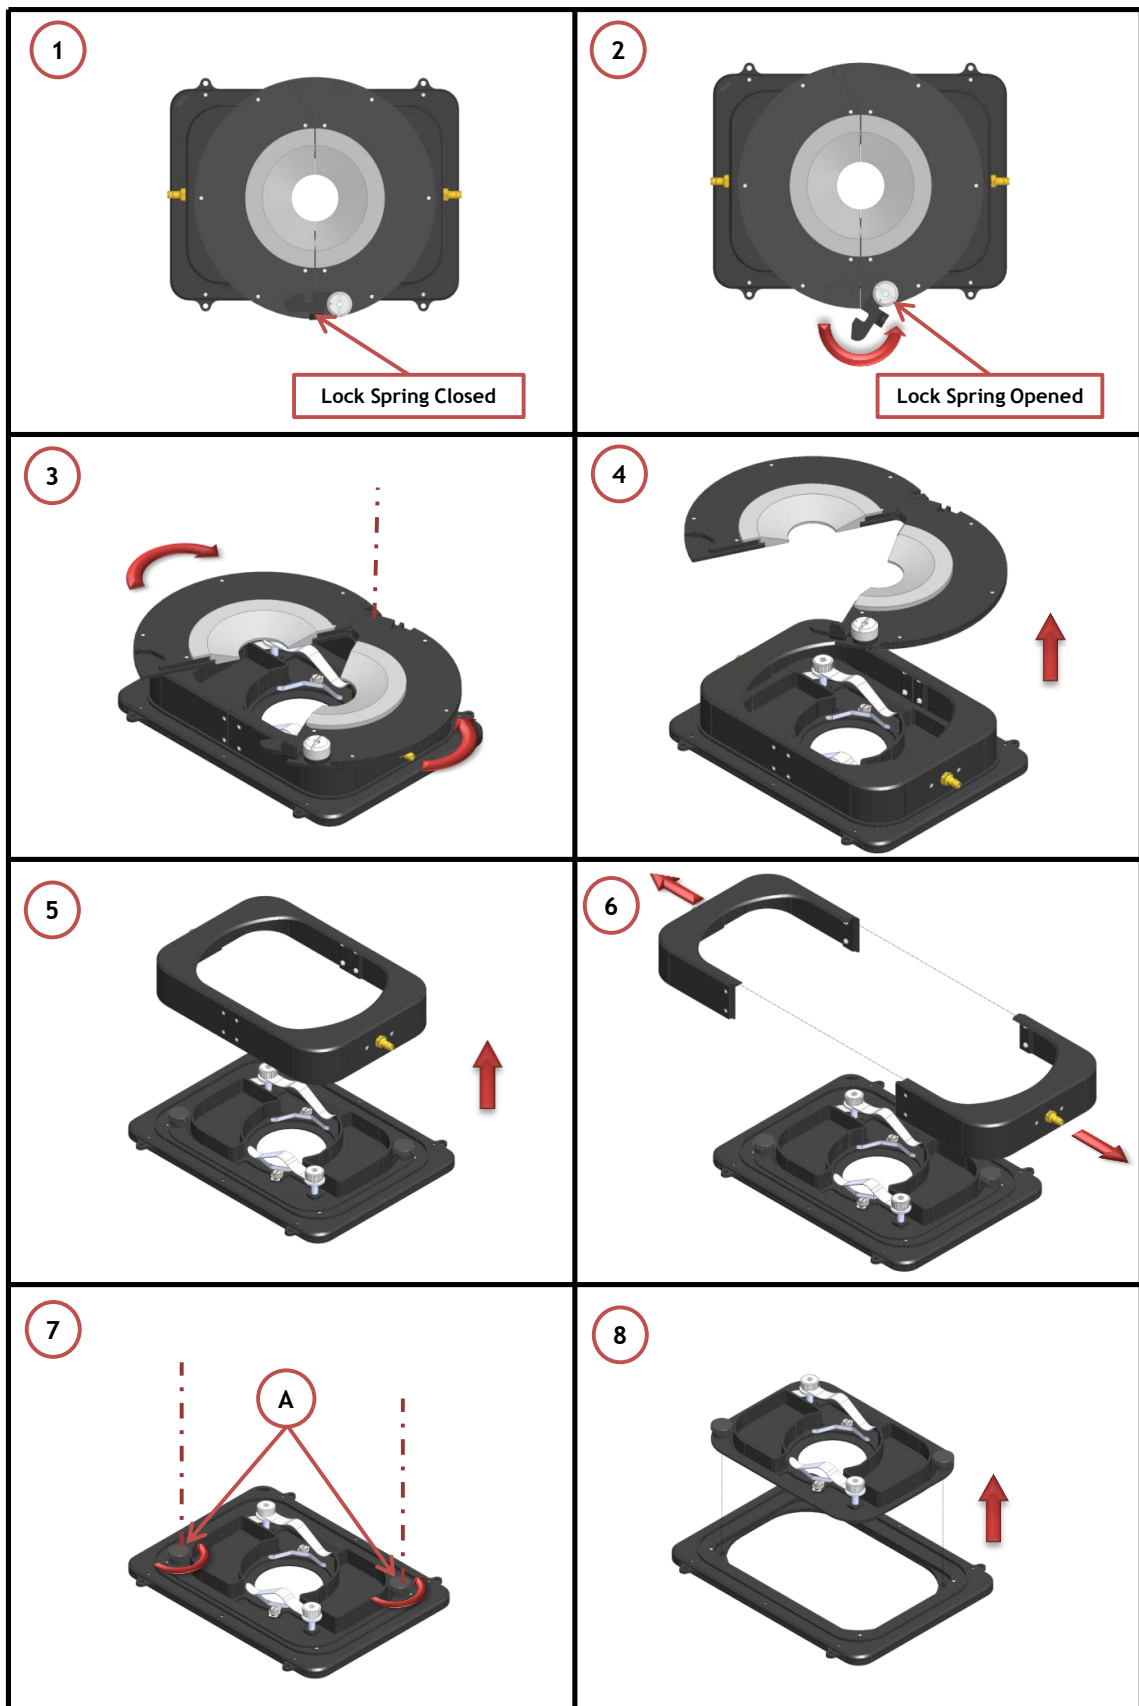

Figure 5. Replace of the Specimen Holder inside the Chamber Base.
If you want to change the sample holder follow the steps shown in the images of Figure 5 and listed below:
1. Open the lock spring, as shown in Figure 5 Image 2
2. Open the chamber lid as shown in Figure 5 Image 3
3. Remove the chamber by lifting it from the workspace, as shown in Figure 5 Image 4
4. Remove the chamber by lifting it from workspace, as shown in Figure 5 Images 5 and 6
5. Unscrew captive screws. The Captive screw location is indicated by letter A, in Figure 5 Image 7
6. Lift and replace the sample holder, as shown in Figure 5 Image 8